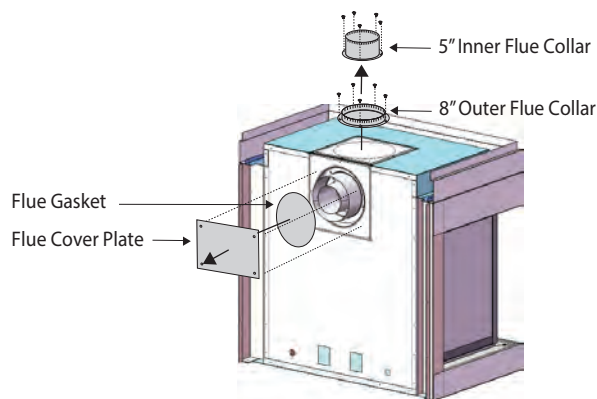

Figure 8. Flue cover and collar removal, Top Vented fireplace.
outlet, as shown in **Figure 8**.
1. Remove the Rear flue cover and gasket (5" and 8") on the flue outlet, as shown in **Figure 8**.